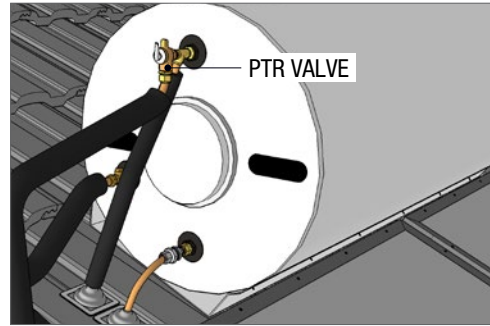

Fig 15
2. OPEN the mains cold water valve to the tank making sure the pressure / temperature relief (PTR) valve (Fig 15) is OPEN